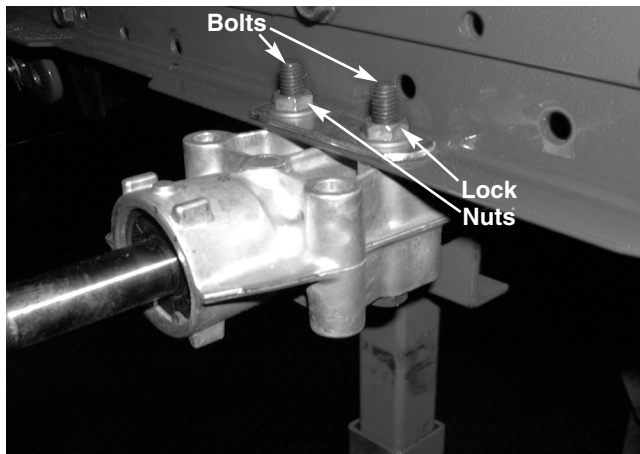

FIGURE 14.
22. Remove all four hex bolts and lock nuts securing the hydrostatic transmission to the frame rails using a 1/2" socket and a 1/2" wrench. See figure 14.